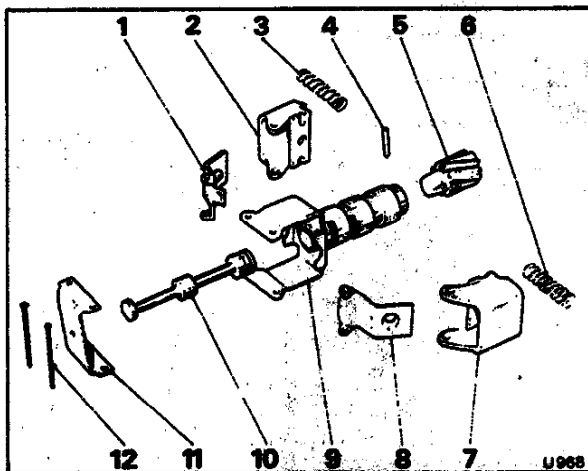

Fig. T41 Governor assembly - exploded
2. Remove the pins, thrust cap, governor weights and springs (see Fig. T41). The weights are interchangeable and need not be marked for identification.